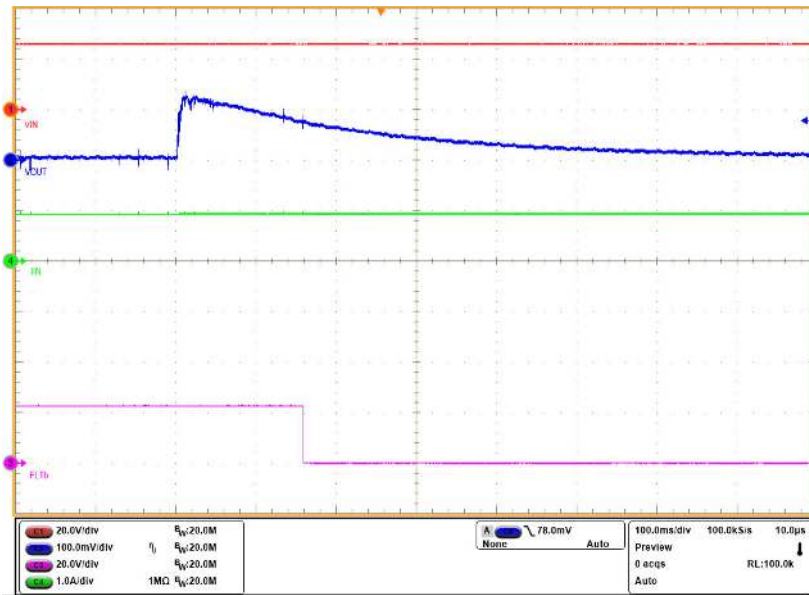

Figure 5-8. IN to OUT Short Response of the TPS1641 Device without External PFET
6. Observe the TPS16412 response. As seen in Figure 5-8, the FLTb asserts after 150 ms (typical) after IN-OUT short is detected. Note that the  $V_{OUT}$  is probed in AC coupling mode to observe the jump in the voltage for IN-OUT short.